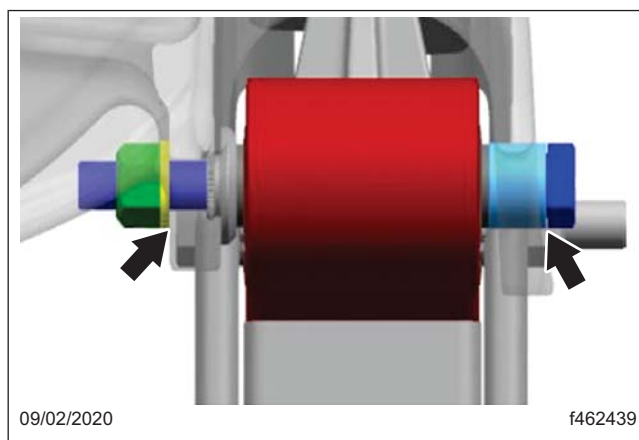

Fig. 3, Possible Gap Areas
- 3.2 Inspect for any gaps between the bolt head and hanger bracket and between the nut and hanger bracket indicating a loose fastener. See Fig. 3.